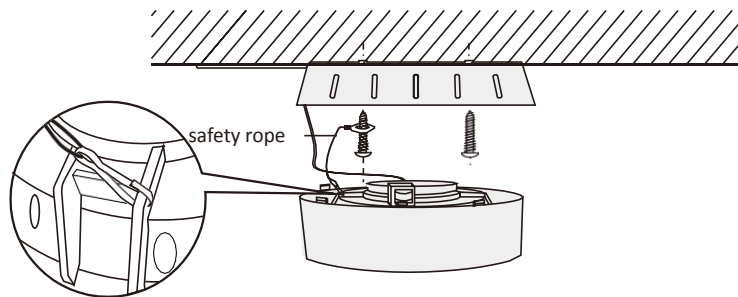

Figure 3
3.The safety rope ring is sheathed into fixed roof screw.one end of the safety rope with the hook is conneted with the speaker main body (As shown in the figure3).